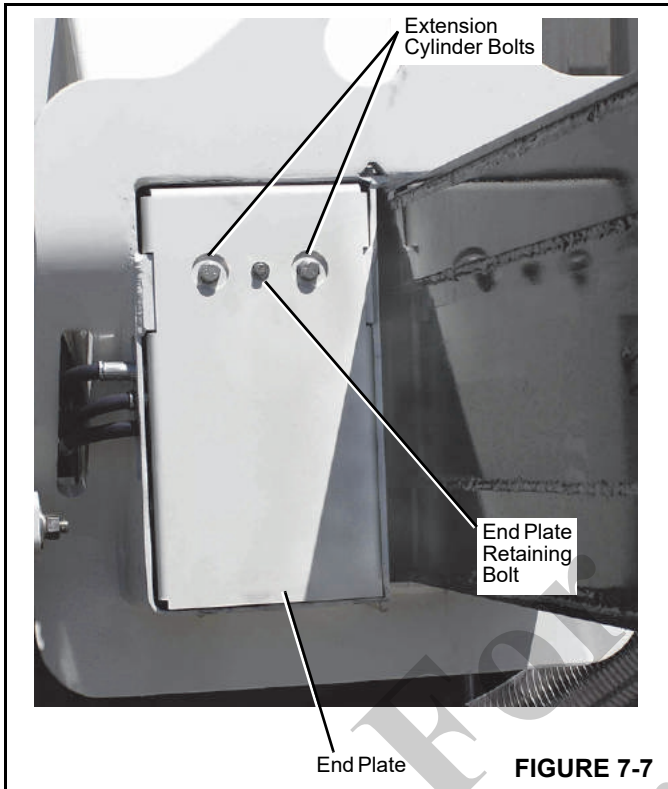

FIGURE 7-7
1. Remove the end plate from the outrigger box. This should provide access to the wear pads (Figure 7-7).